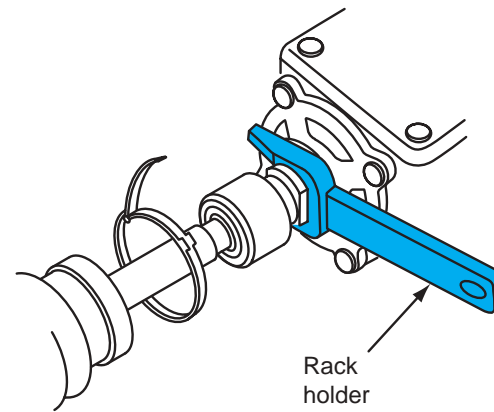

Figure 13-16 Installing the special tool to hold the shaft screw while tightening the inner tie-rod end.
3. Drive the special holding tool between the actuator housing and the stop washer with a soft hammer (Figure 13-16).